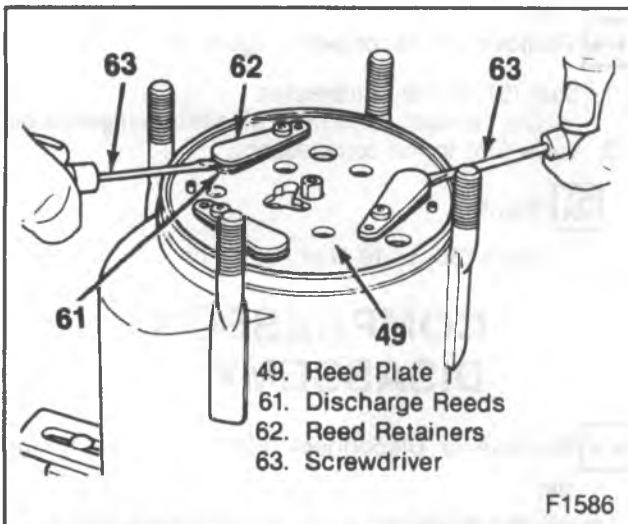

Figure 19—Removing the Rear Discharge Valve Plate and Seal
5. Seal (52).
6. Rear discharge valve plate assembly (49) (figure 19).